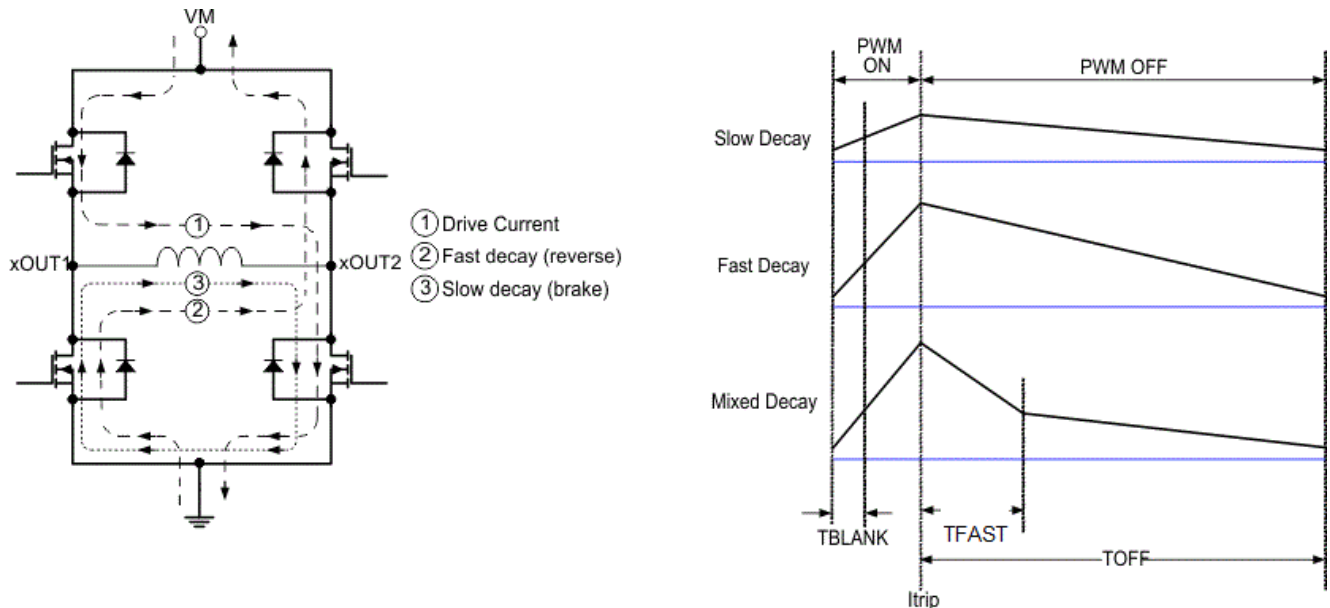

Figure 7-5. Decay Modes
During PWM current chopping, the H-bridge is enabled to drive through the motor winding until the PWM current regulation threshold is reached. This is shown in Figure 7-5, Item 1.
Once the current threshold is reached, the H-bridge can operate in two different states, fast decay or slow decay. In fast decay mode, once the current level has been reached, the H-bridge reverses state to allow winding current to flow in a reverse direction. Fast decay mode is shown in Figure 7-5, item 2. In slow decay mode, winding current is re-circulated by enabling both of the low-side FETs in the bridge. This is shown in Figure 7-5, Item 3.